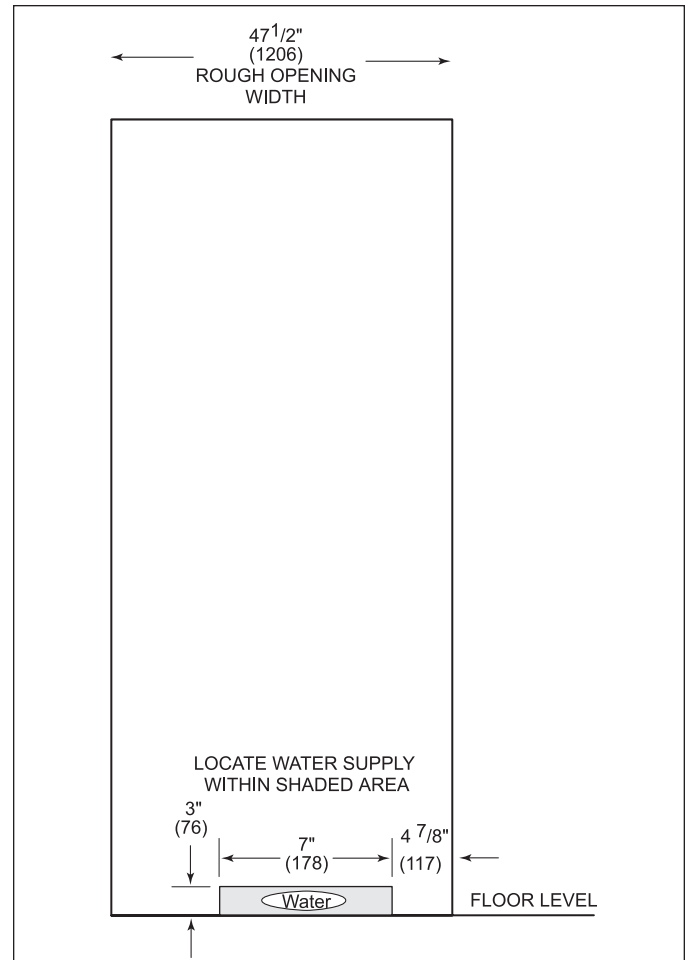

Figure 2-6. Plumbing Front View
This unit comes with an automatic ice maker. First rough in water supply line. Route water line through floor or within 1/2" (13) from wall and no higher than 3" (76) from floor. If water supply is brought in from behind unit, route water line through the wall no more than 3" (76) from floor. Make connection to home supply using enclosed 6' (1829) 1/4" (6) plastic tubing and associated hardware. (See Figure 2-6)